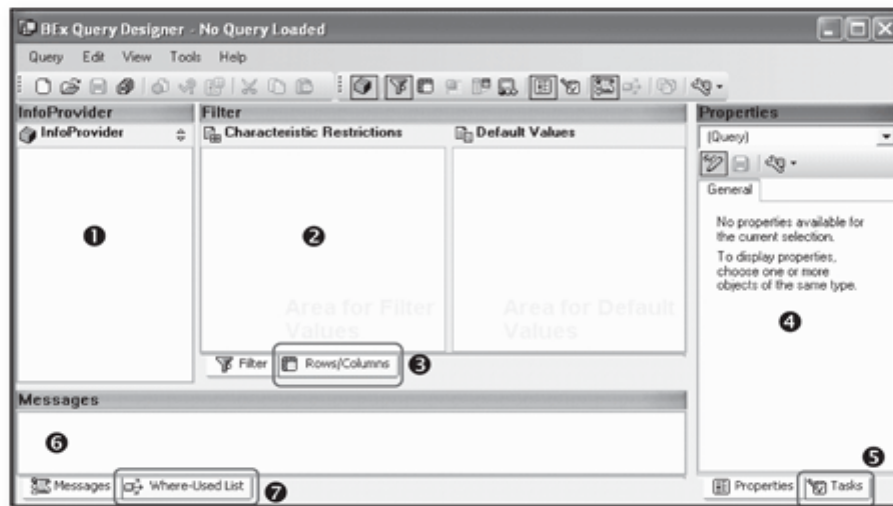
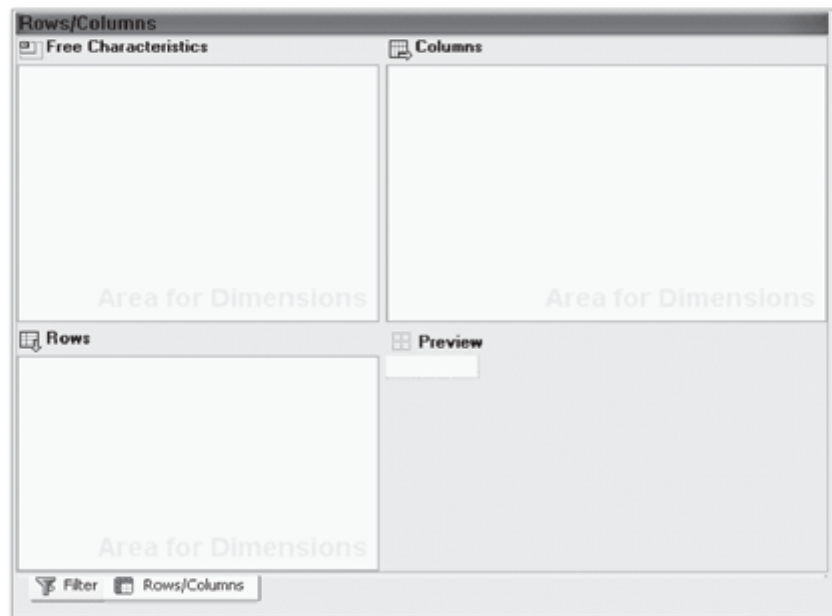
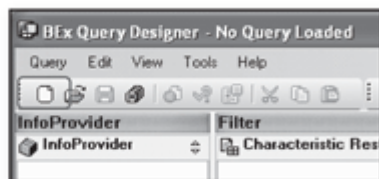

Figure 9.3 BEx query designer Screen Layout
Figure 9.4 Rows/Columns Screen Area
Figure 9.6 Create New Query
When you log in to the BEx query designer, the default screen appears as shown in Figure 9.3.
A query has to be built on an InfoProvider. The InfoProvider definition upon which the query is built is displayed in the InfoProvider area of the query designer (1 of Figure 9.3). This becomes the base for the query because you can drag the necessary elements (characteristics, key figures, attributes, etc.) from the InfoProvider area into the query definition.
If the query has to be restricted to certain characteristic values, then those filter restrictions are defined in the Filter area of the query designer (2 of Figure 9.3). The static filters are defined in the Characteristic Restrictions sections. The default values for which the query should be first executed are defined in the Default Values area.
The layout of the query is defined on the Rows/Columns tab of the query designer (3 of Figure 9.3). This screen area is displayed in Figure 9.4. The characteristics and key figures to be included as rows or columns in the report layout are specified in
All components of the query (including the query itself) have their own sets of properties, descriptions, display settings, and so on, which determine the behavior of that element. The properties for the selected query element are visible in the Properties screen area of the query designer (refer to ❹ of Figure 9.3).
For different components of a query, there are different tasks or actions that can be performed. These tasks vary based on the element that is selected. Different tasks related to the selected item are listed in the Tasks area, so you can find all relevant actions for an object listed under tasks. In case of errors, the possible corrective actions and error help are also visible in the Task area (refer to ❺ of Figure 9.3).
Let's begin creating a simple query based on the sales InfoCube (BWSD_C01) that we created earlier in Chapter 5, InfoCubes. When you log in to BEx Query Designer, you see a default screen as shown in earlier in Figure 9.3. To create a new query, you can either use the menu **QUERY • NEW** OR click on the toolbar icon shown in Figure 9.6.